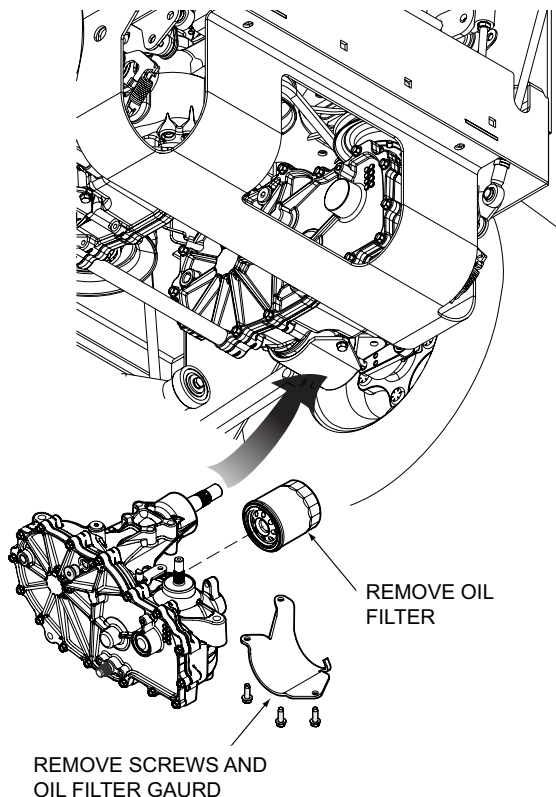

Figure 7-1. Hydraulic Oil Filter and Drain Plug
2. Remove the three 1/4" filter guard screws and filter guard from both axles. See Figure 7-1. Clean any loose debris around the perimeter of the filter.
4. Remove the hydraulic filters from both axles and allow the fluid to drain into the container. Properly discard the oil when the system has drained completely. See Figure 7-1.